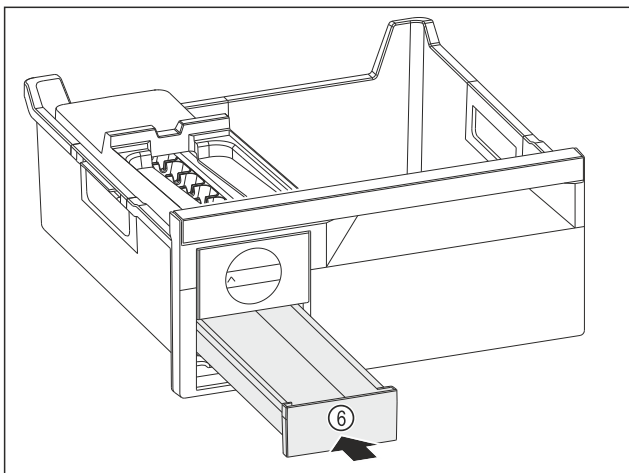

Fig. 149
- ▶ Insert the ice cube drawer Fig. 149 (6).